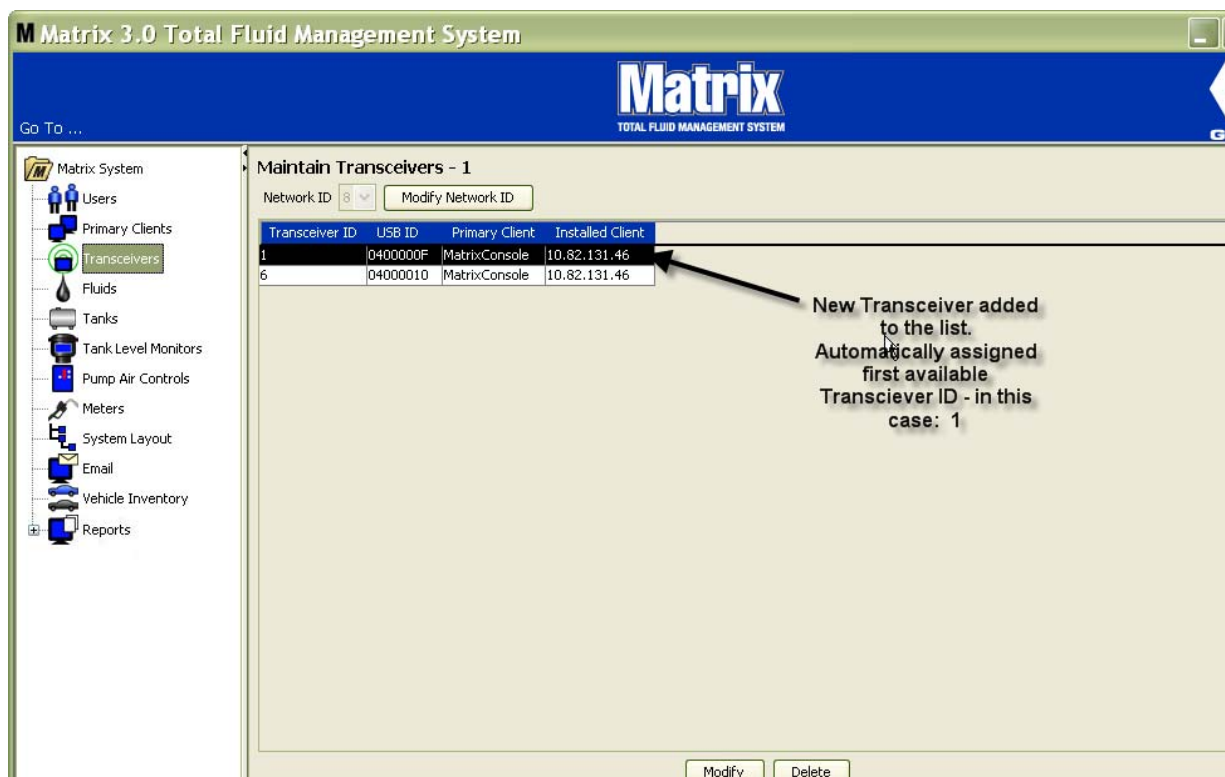

FIG. 102
1. When a transceiver is plugged into the PC USB port it automatically is added to the top of the list and assigned the first available Transceiver ID number as shown in FIG. 102. Unplugging or powering down the transceiver will not cause transceiver to disappear from the list of transceivers, although either operation will cause communication over that device to stop immediately.